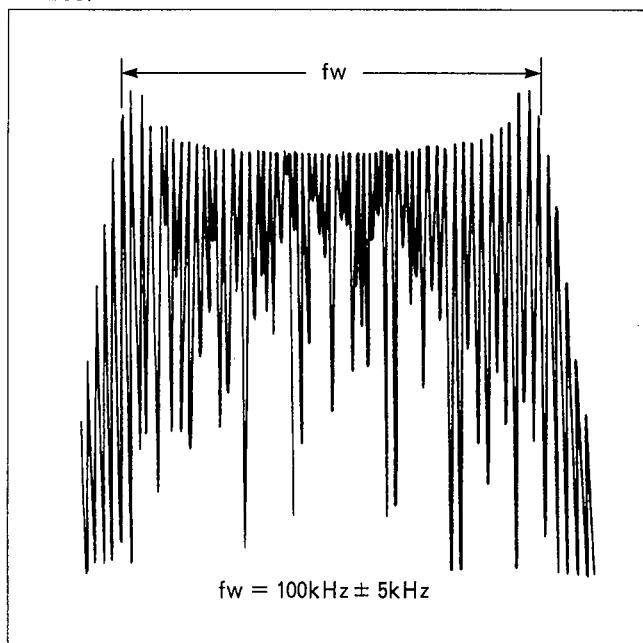

Figure E53
3. Adjust VR41001 (CH1) so that the width of the "fw" portion becomes 100KHz  $\pm$  5KHz as shown in Figure E53.
5. Adjust VR41005 (CH2) so that the width of the "fw" portion becomes 100KHz  $\pm$  5KHz as shown in Figure E53.